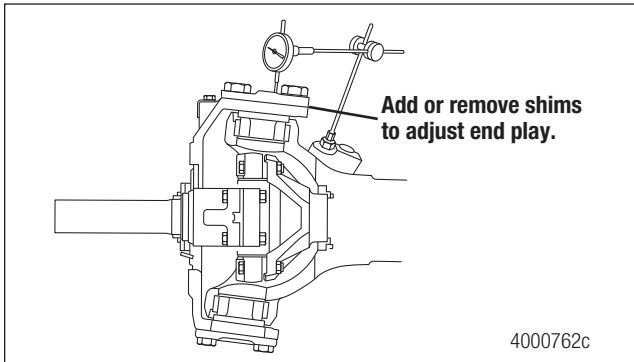

Figure 7.11
- b. Place a magnetic base dial indicator into position on the housing. Figure 7.11.